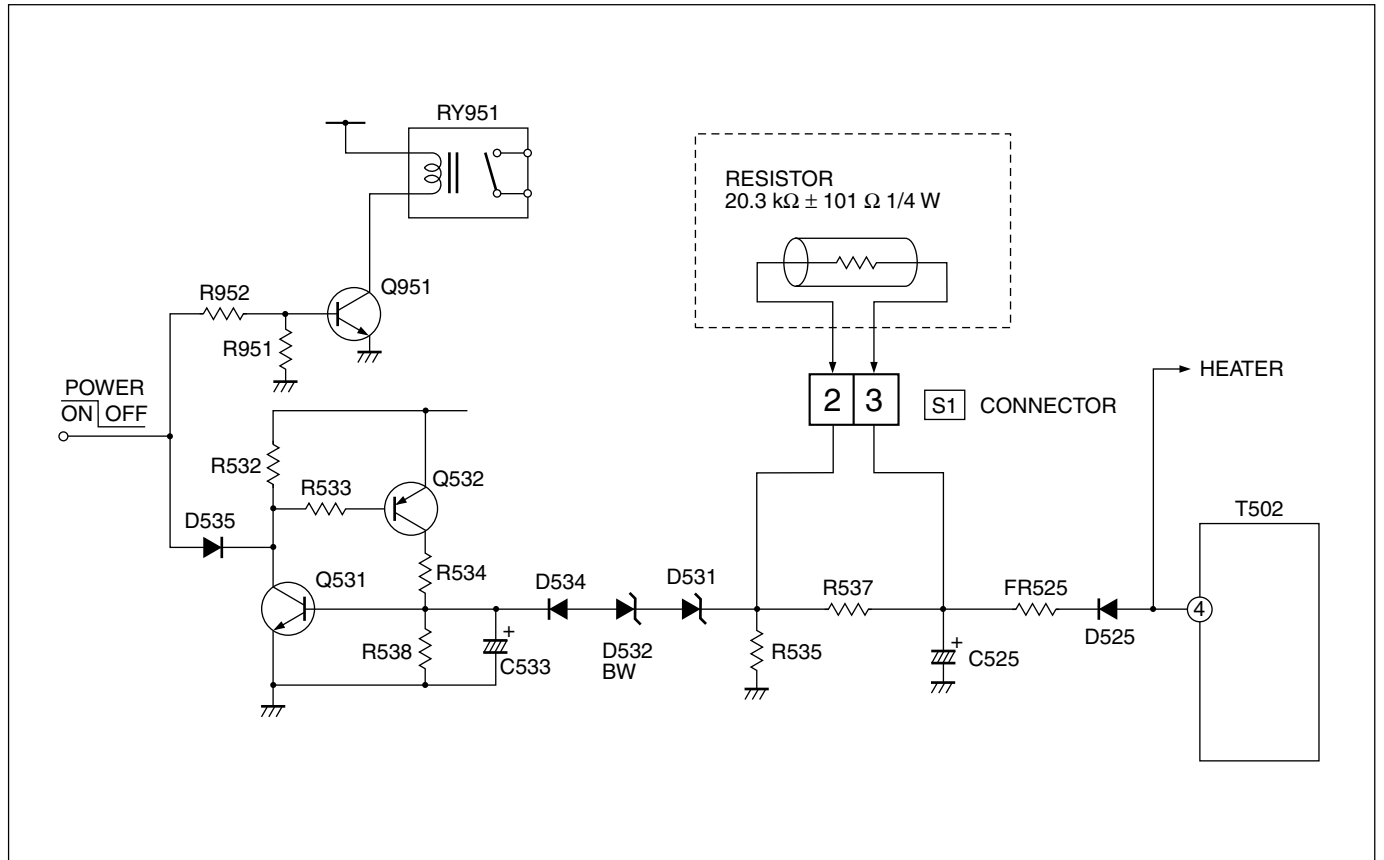

Fig. 1
After repairing the high voltage hold down circuit shown in Fig. 1.
- (1) Turn the POWER SW ON.
- (2) As shown in Fig. 1, set the resistor (between **S1** connector **2** & **3** ).
- (3) Make sure that the screen picture disappears.
- (4) Temporarily unplug the power cord.
- (5) Remove the resistor (between **S1** connector **2** & **3** ).
- (6) Again plug the power cord, make sure that the normal picture is displayed on the screen.